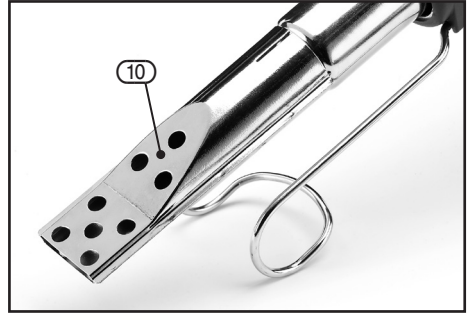

FIG.8
9.2 BBQ/CHARCOAL LIGHTER – FIG. 8